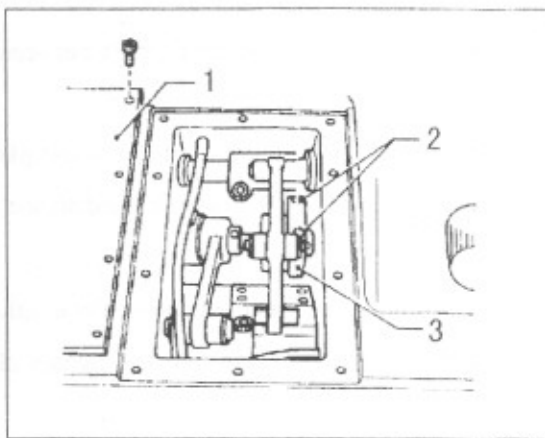

Fig 28
### (1) Horizontal feed direction (showed by Fig.28)